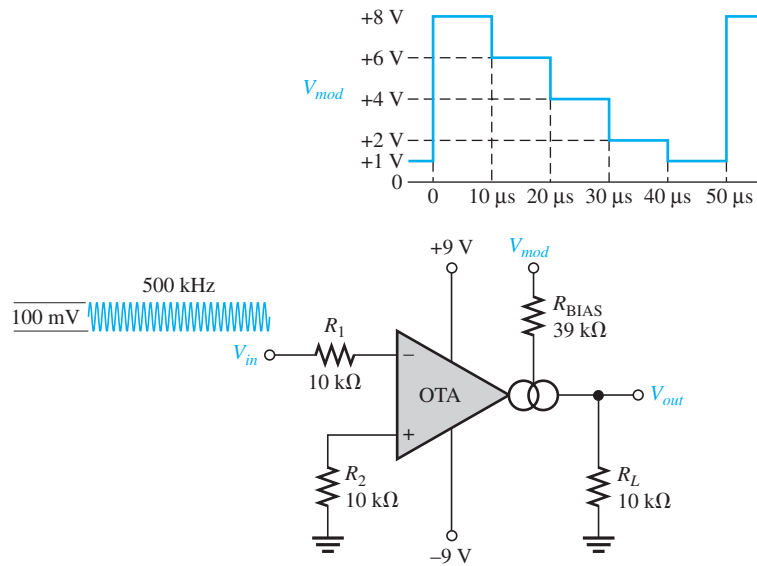

FIGURE 12–40
19. The OTA in Figure 12–40 functions as an amplitude modulation circuit. Determine the output voltage waveform for the given input waveforms assuming $K = 16 \mu\text{S}/\mu\text{A}$.
20. Determine the trigger points for the Schmitt-trigger circuit in Figure 12–41.